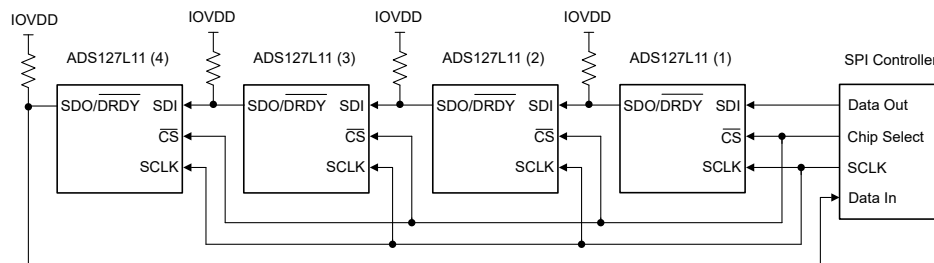
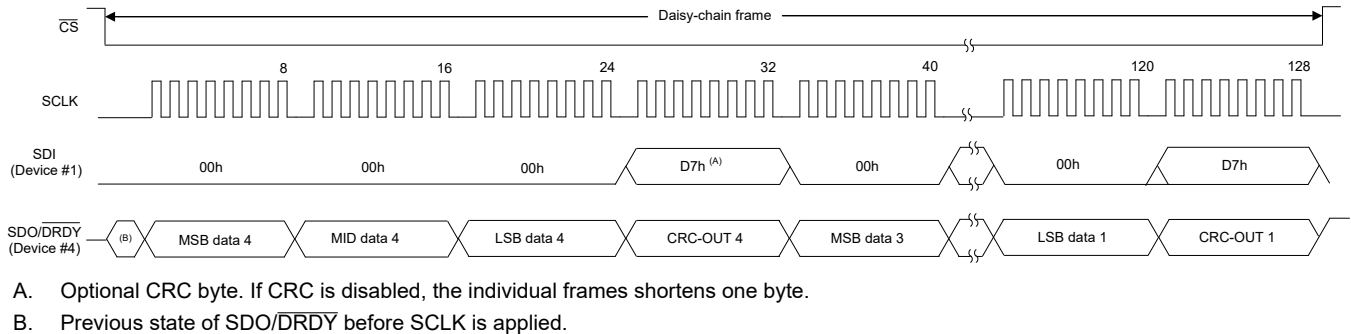

Figure 8-36. Daisy-Chain Connection
Figure 8-39. Read Conversion Data in Daisy-Chain Connection
Figure 8-36 shows four devices connected in a daisy-chain configuration. The SDI of ADS127L11 (1) connects to the host SPI data out, and SDO/DRDY of ADS127L11 (4) connects to the host SPI data input. The shift operation is simultaneous for all devices in the chain. After each ADC shifts out the conversion data, the data of SDI appears on SDO/DRDY to drive the SDI of the next device in the chain. The shift operation continues until the last device in the chain is reached. The SPI frame ends when \overline{CS} is taken high, at which time the data shifted into each device is interpreted. The SDO/DRDY pin must be programmed to data output-only mode.
Figure 8-38 shows the detailed input data sequence for the daisy-chain write register operation of Figure 8-36. 40-bit frames for each ADC are shown (24-bits of data, with the STATUS and CRC bytes enabled). Command operations can be different for each ADC. The read register operation requires a second frame operation to read out the register data.
Figure 8-39 shows the clock sequence to read conversion data from the device connection provided in Figure 8-36. This example illustrates a 32-bit output frame (24-bits of data, with the CRC byte enabled). The output data of ADC (4) is first in the sequence, followed by the data of ADC (3), and so on. The total number of clocks required to shift out the data is given by the number of bits per frame \times the number of devices in the chain. In this example, 32-bit output frames \times four devices result in 128 total clocks.